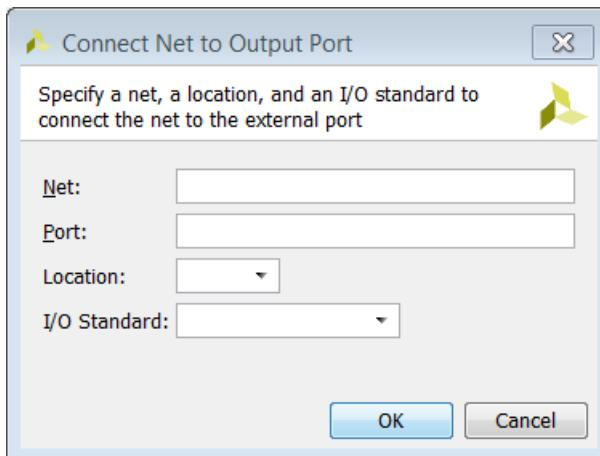

Figure 3-56: Connect Net to Output Port Window
- **Connect Net to Output Port:** Opens the Connect Net to Output Port dialog box, which allows you to connect the selected net to an external port. See Figure 3-56.
Logical changes are reflected in the schematic view as soon as the netlist is changed. The following figure shows an updated schematic based on the netlist changes shown in Figure 3-56.